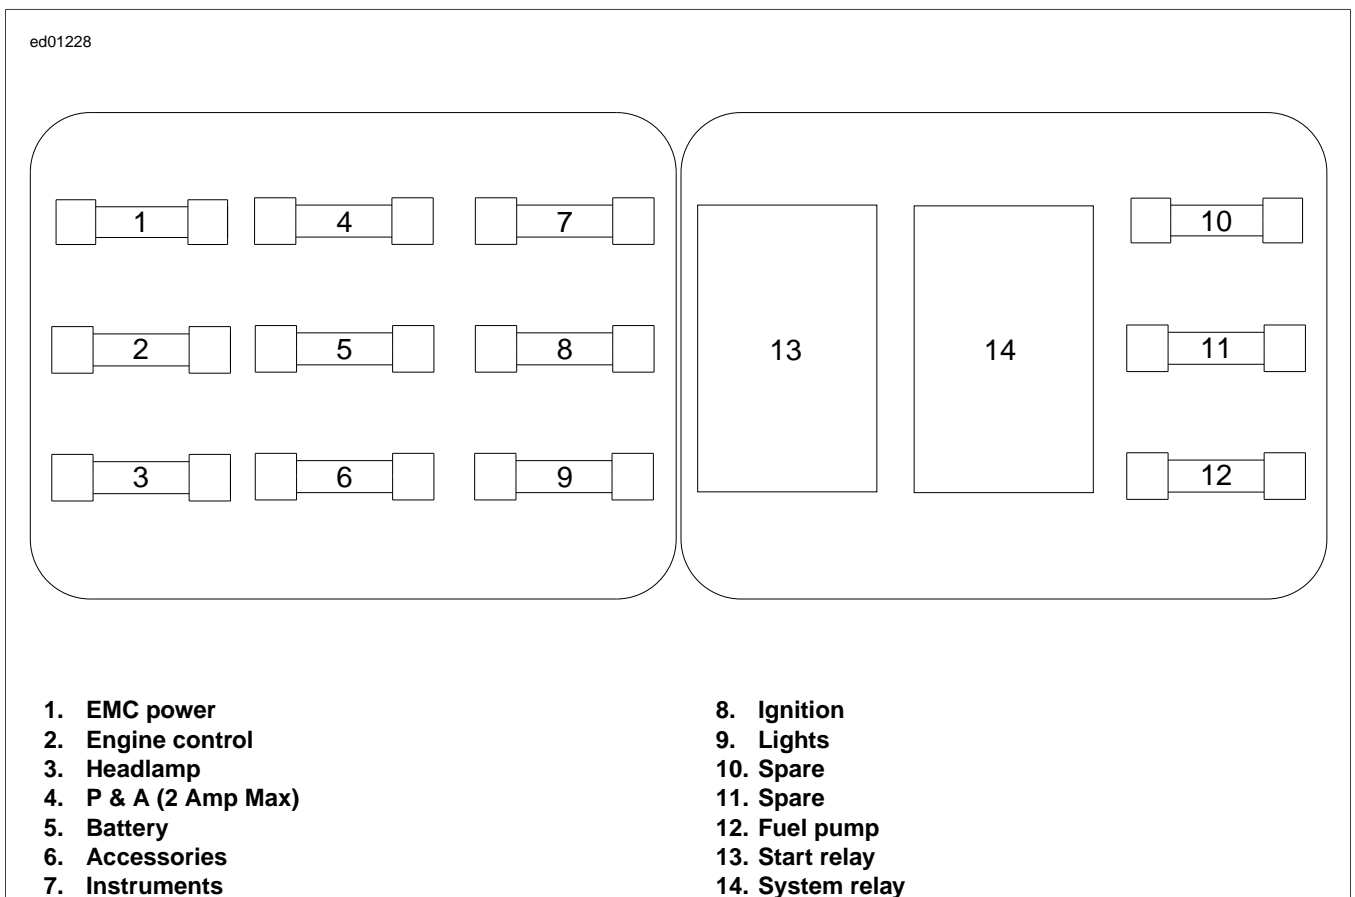

Figure 1-5. Fuse Block: Top View
1. See Figure 1-5. Locate start relay under the seat.